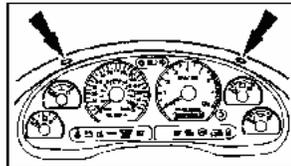

Figure 2.
- B. Remove two black Phillips screws from the top-inside of the instrument panel with a T-15 Torx or a 7mm Nut Driver depending on year of the car. (See figure 2)